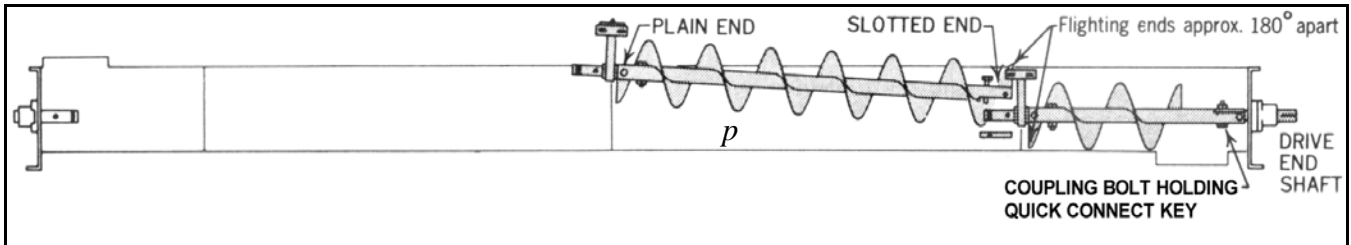

Figure 3.5
9. Place next screw section in trough and fit onto coupling so that flighting end is about 180° from end of flighting of first section. (See Figure 3.5.) Install coupling bolts.
4. Lower screw section into place on shaft with quick-connect keyway downward as shown in Figure 3.5. Mount key and insert coupling bolts. Always tighten first the coupling bolt that holds key in place.